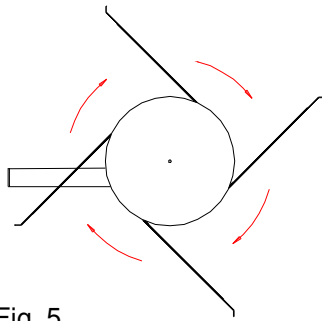

Fig. 5
8.) Fit the spring arms to the agitator. The agitator rotates clockwise (Fig. 5). Fit the longest arms opposite one another. The spring arms (I, Fig. 9) must be 15-20 mm above the outfeed auger at the point where they pass over it. Do not tighten the bolts (H, Fig. 9) on the spring arms. The agitator feet (J, Fig. 9) must be adjusted so that the longest arm is 3-4 cm clear of the floor at its lowest point (K, Fig. 9).
9.) Screw the drive unit to the stoker unit using the fixing screws (L) (M10x100 and M10x140 mm) making sure it forms an airtight seal.